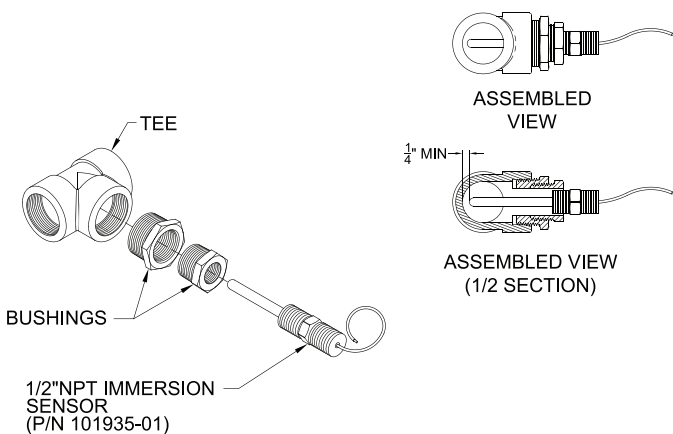

Figure 32: Recommended Direct Immersion Header Sensor or DHW Heat Source Sensor Installation Detail
2. Install one header sensor in system piping downstream of the boiler supply connection. See Figure 34 for header sensor location and Figures 32 and 33 for installation detail. Wire header sensor to Sequencer Master boiler. See also Section VIII. Electrical and Section X. Operation.